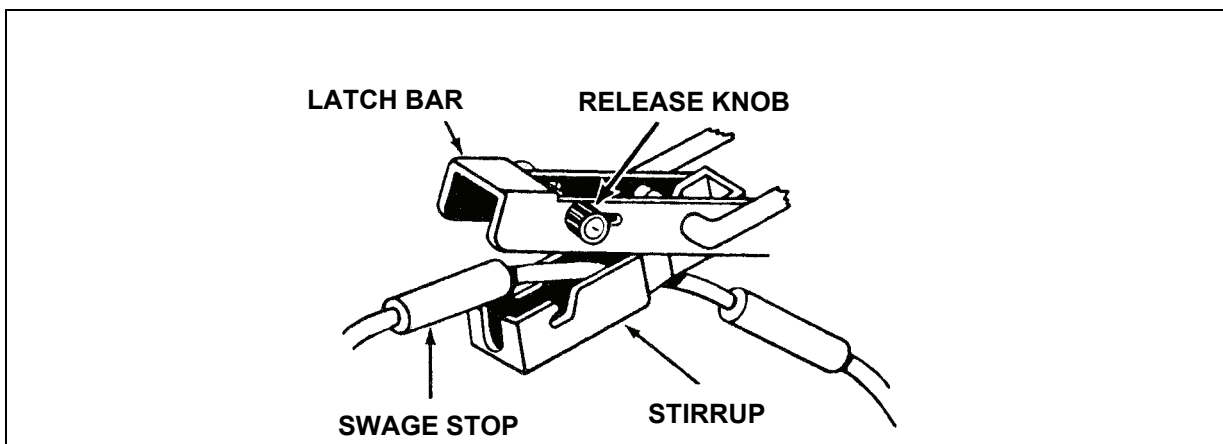

Figure 8-24. Tensioner
- Route the plastic covered wire rope under the pallet wing formed by the upper boards on the sides of the pallet. Pull the ends of the cable containing the swage stops through the tensioner (Figure 8-24).